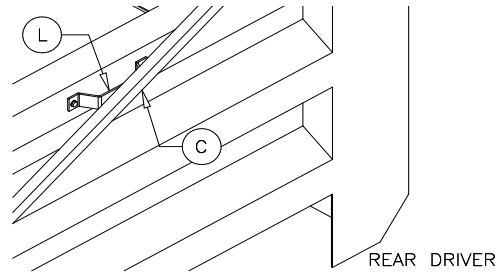

Figure 20
(See Figure 20)
Note: The pivot arm guides (L) (see Figure 20) prevent the tarp from shifting to either side of the box when the tarp is in closed position.
Procedure: Close the tarp. Place a pivot arm guide (L) along one of the ribs in the box wall (see Figure 20). Make sure the guide is aligned with the pivot arm (C). Mark the position of the pivot arm guide. Using a 11/32" drill bit, drill two holes into the box wall. Secure the pivot arm guide to the box wall with the 3/8"x1-1/4" self threading bolts provided. Repeat the above procedure for the opposite side of the box.